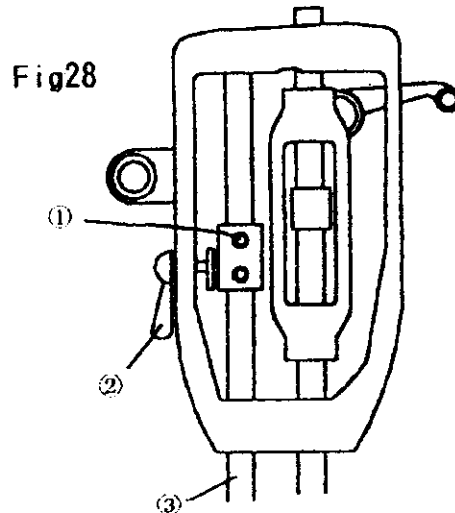

Fig28
- 3) Turn the presser foot lever (2) to raise the presser foot
- 4) Lose screw (1) to lift up or down the presser bar for presser foot (3) adjustment. The highness is above the needle plate 11mm, as fig. 28 shows.